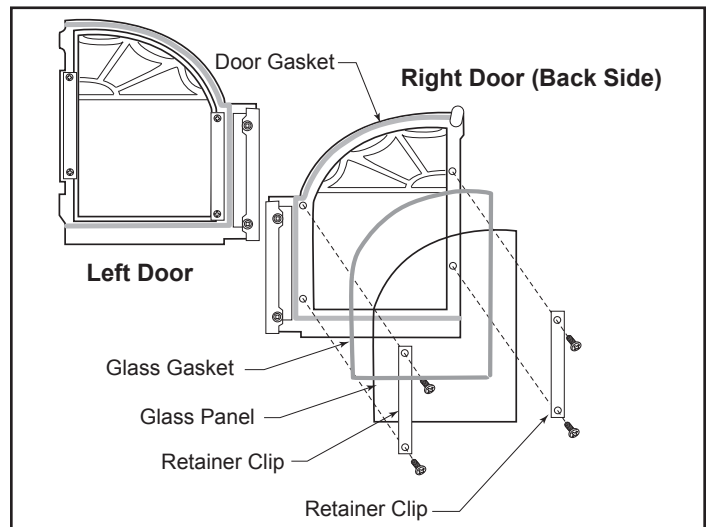

Figure 43 - An exploded view of the glass assembly.
2. Secure the glass on both doors with the retainer clips. Tighten all screws. (Figure 43)